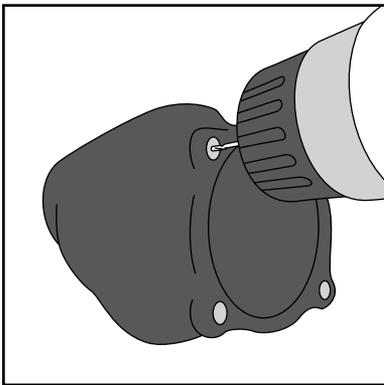
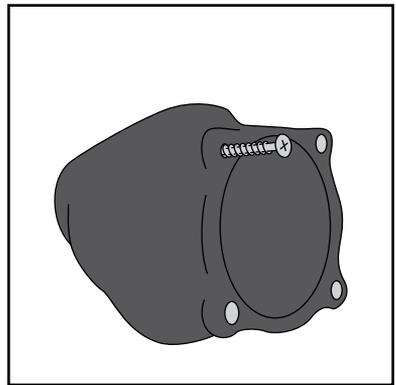

Figure 6
Figure 7
11. When using set screw attachment version: Remove the (4) set screws from the socket attachment ring. Drill a $\frac{1}{16}$ in. diameter hole at the distal end of pre-installed rubber fabrication dummies approximately $\frac{1}{2}$ in. deep (see Figure 6). Fasten the supplied drywall screw into the hole and pull firmly to remove each dummy (see Figure 7). Chase set screw attachment holes with the supplied 10-32 tap to remove lamination resin from threads.
12. When using glue-in socket attachment version: Drill a $\frac{1}{16}$ in. diameter hole into the distal end of the pre-installed rubber fabrication dummies approximately $\frac{1}{2}$ in. deep (see Figure 6). Fasten the supplied drywall screw into the hole and pull firmly to remove each dummy (see Figure 7).